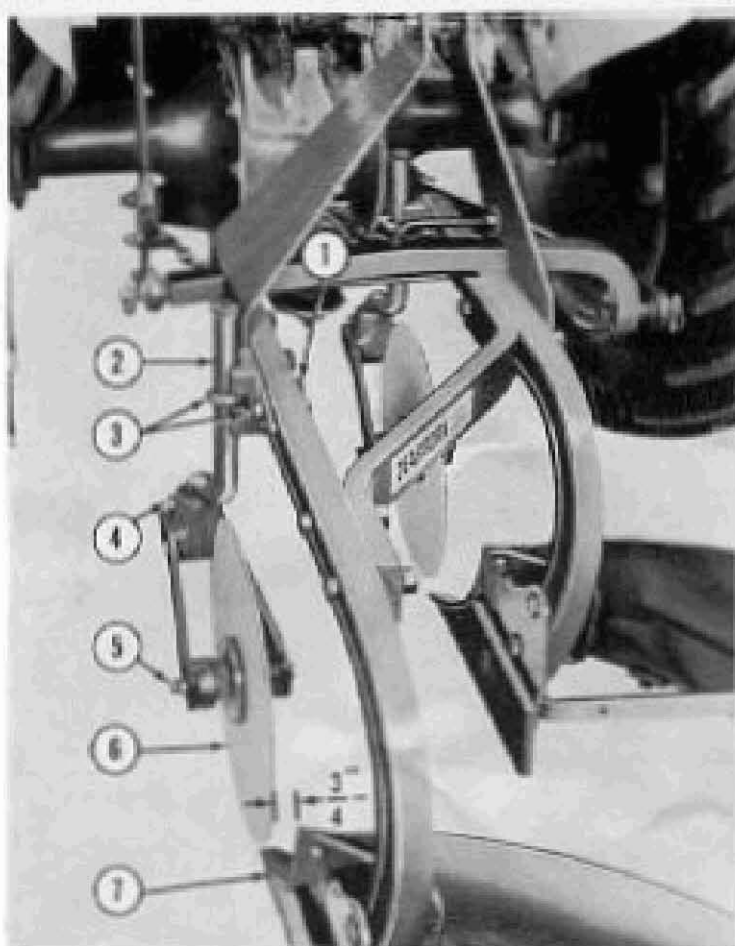
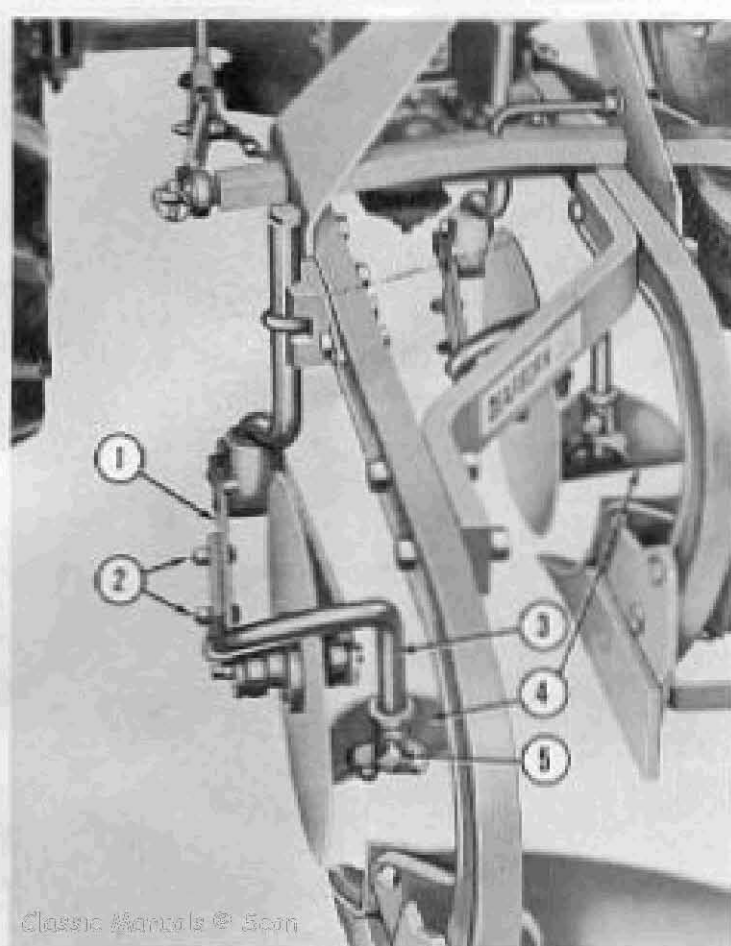

Figure 3
Figure 4
- a. Attach the coulter stem (2), Figure 3, to the left side of each beam with the stem seat and eye bolt clamp (3).
- b. Adjust the coulter for depth and width of cut desired and tighten the eye bolt nut (1), Figure 3, securely.
NOTE: The eye bolt clamp (3), Figure 3, may be attached in reverse, thus providing a forward or rearward adjustment for the coulter blade. The forward position as shown is used under normal plowing conditions. The rearward position is used in hard ground or where heavy trash lies close to the ground.
- c. The swing of the coulter (6), Figure 3, may be controlled by loosening the nut (4) on the limit stop and adjusting the stop. Tighten the nut (4), Figure 3, **SECURELY**.
- d. Adjust the nut on the bolt (5), Figure 3, to take up excess play in the bearings and secure with the locknut provided.
- a. Attach a jointer arm (3), Figure 4, to the left side of each coulter fork (1) with the two carriage bolts (2), lock washers and nuts.
- b. Adjust the jointers (4), Figure 4, with the point lightly touching the coulter blades (6), Figure 3.
- c. To adjust the jointers (4), Figure 4, loosen the set screw (5) and position as desired.